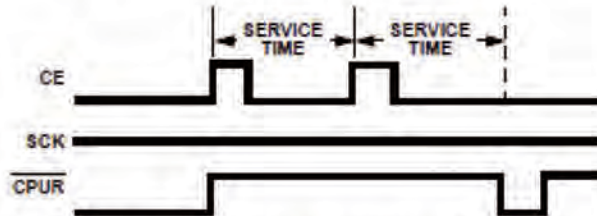

FIGURE 11. WATCHDOG OPERATION WAVEFORMS
3. Watchdog Reset (actually a non-transfer) Figure 11.
### Watchdog Reset (See Figure 11)